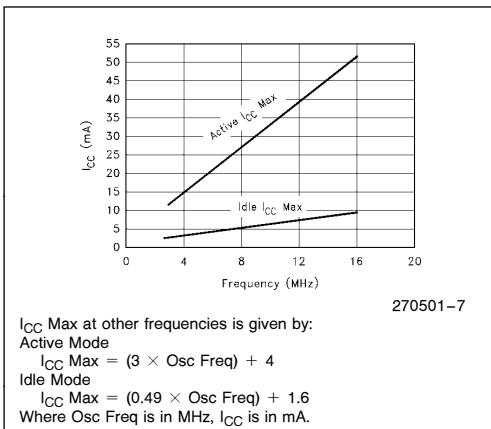

Figure 6.  $I_{CC}$  vs Frequency
3. See Figures 6–9 for test conditions. Minimum  $V_{CC}$  for Power Down is 2.0V.